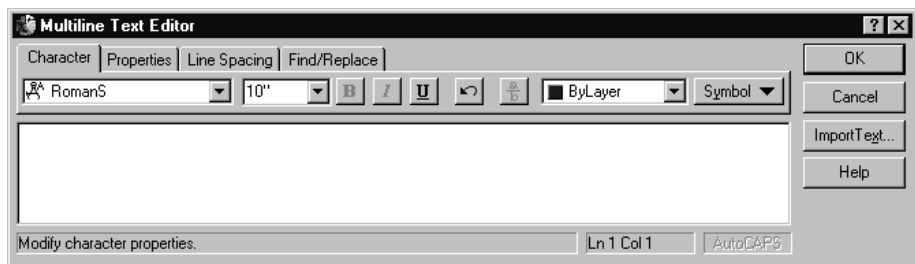

Figure 3-9
9. The Multiline Text Editor dialog, shown in Figure 3-9, will pop up. Type in your label text, then pick **OK** to exit. The difference between using MText and DText is that both will let you type multiple lines of text, but DText lines are not connected. They are each separate entities. MText lines are one entity and can be moved, copied, etc., as one.